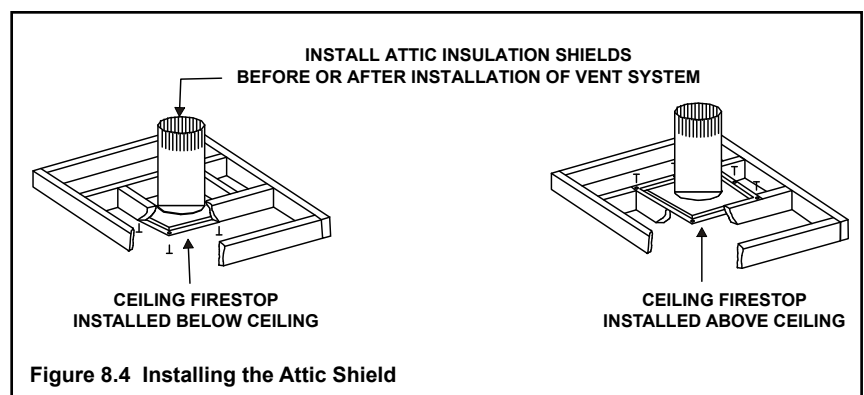

Figure 8.4 Installing the Attic Shield
- The ceiling firestop may be installed above or below the ceiling joists when installed with a attic insulation shield. It must be under joists between floors that are not insulated. Refer to Figure 8.4.